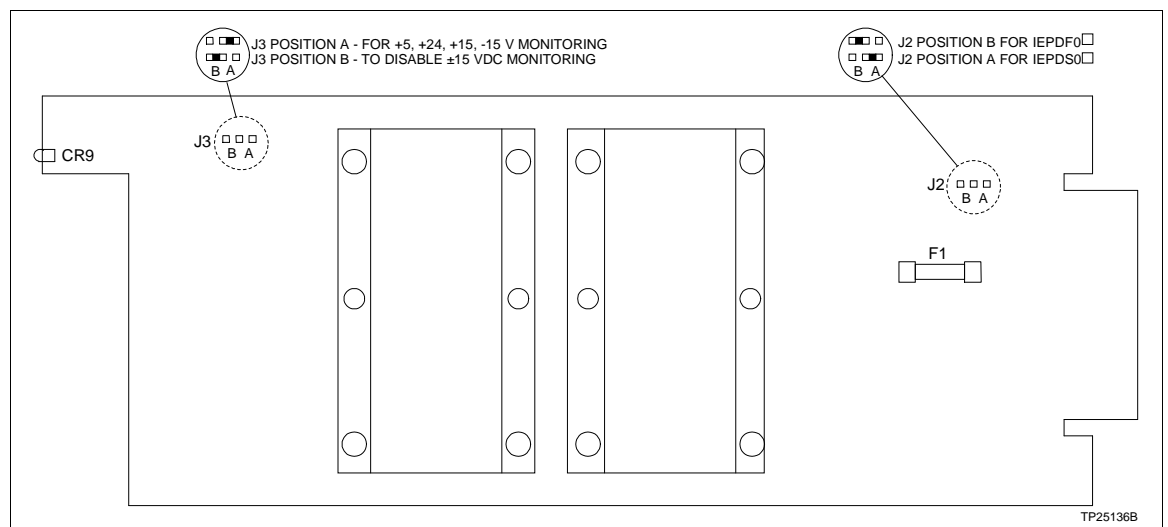
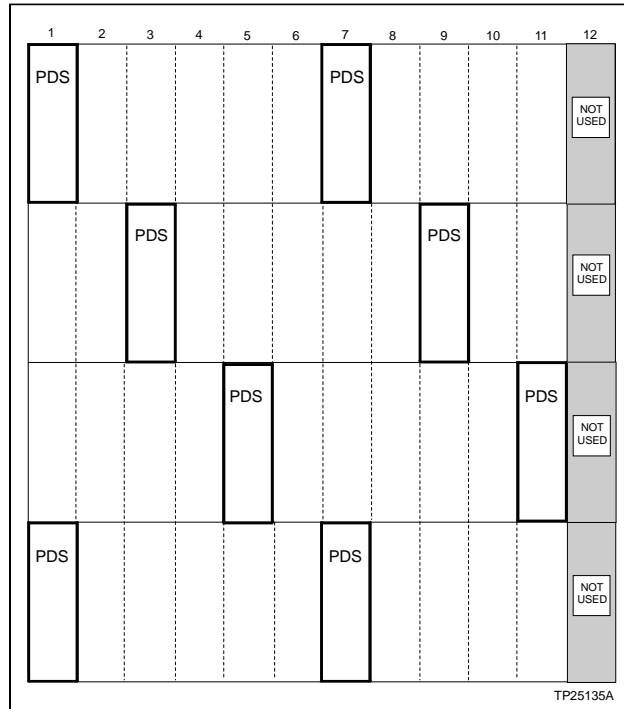

Figure 3-5. Power Module Board Layout
Figure 3-6. Recommended Power Module Layout
Power modules (Figure 3-5) mount directly in the module mounting unit (MMU). Any slot except the rightmost (slot 12) can be used. Install the modules as explained in Steps 1 through 5 and as shown in Figure 3-6. This installation scheme provides the best heat dissipation and power distribu-
1. Refer to Figure 3-5 to set jumper J2 for module type and J3 for bus voltage monitoring.